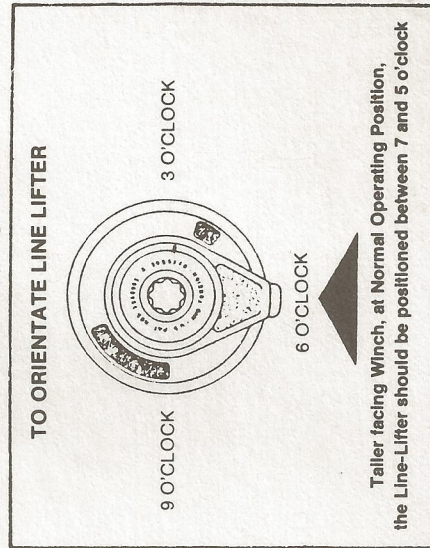

Fig. 1.
- Remove the three capscrows (27) holding the gearbox assy. to the base (1). Keeping the gearbox assy. complete, remove it from base.
- Bolt the base (1) to a flat and smooth surface drilled to take five hexagon head bolts or screws $\frac{3}{8}$ " (10mm) dia. on 5. $\frac{5}{8}$ " (143mm) bolt circle dia. Use the base (1) as a template. Apply only light coat of bedding (sealing) compound to seal the base to the deck.
- To assemble winch: reverse dismantling procedure. (See fig. 1).